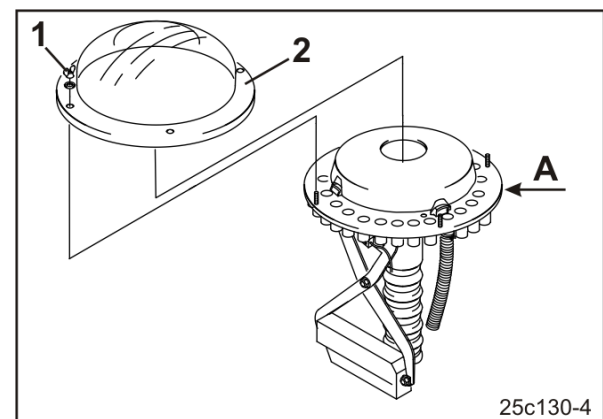

Fig. 280
5. Slacken the winged nuts (Fig. 280/1) and remove the clean plastic flap (Fig. 280/2) from the distributor head.
7. Clean impurities between the base plate (Fig. 280/A) with compressed air.
8. Install the plastic cap (Fig. 280/2).
9. Fix the plastic cap with winged nuts (Fig. 280/1).